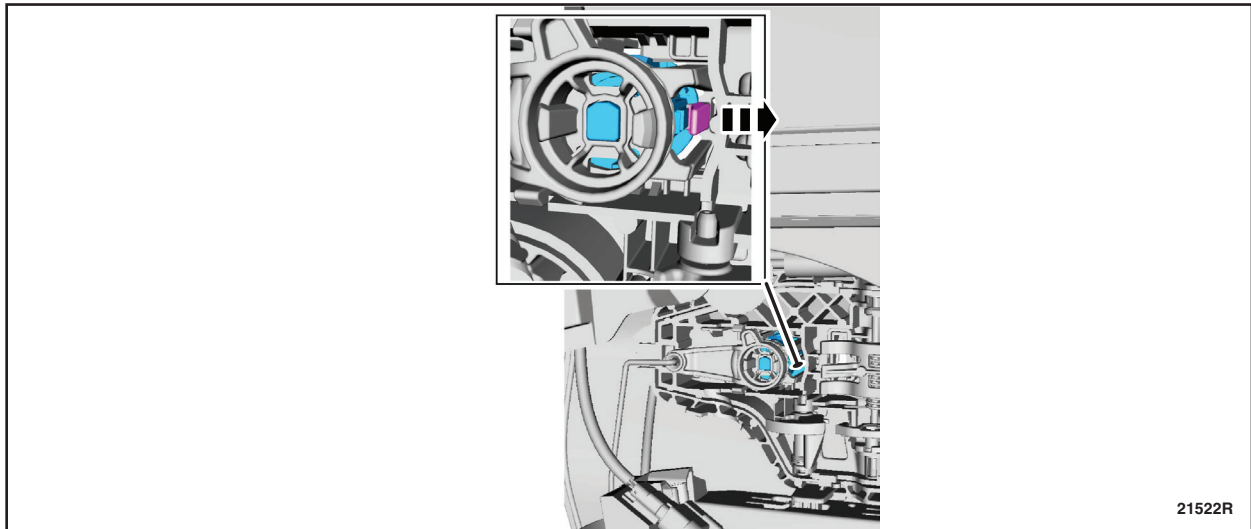

**FIGURE 31**
17. Carefully remove the exterior front door handle lock cover by releasing the rearward tab and pulling forward. See Figure 31.